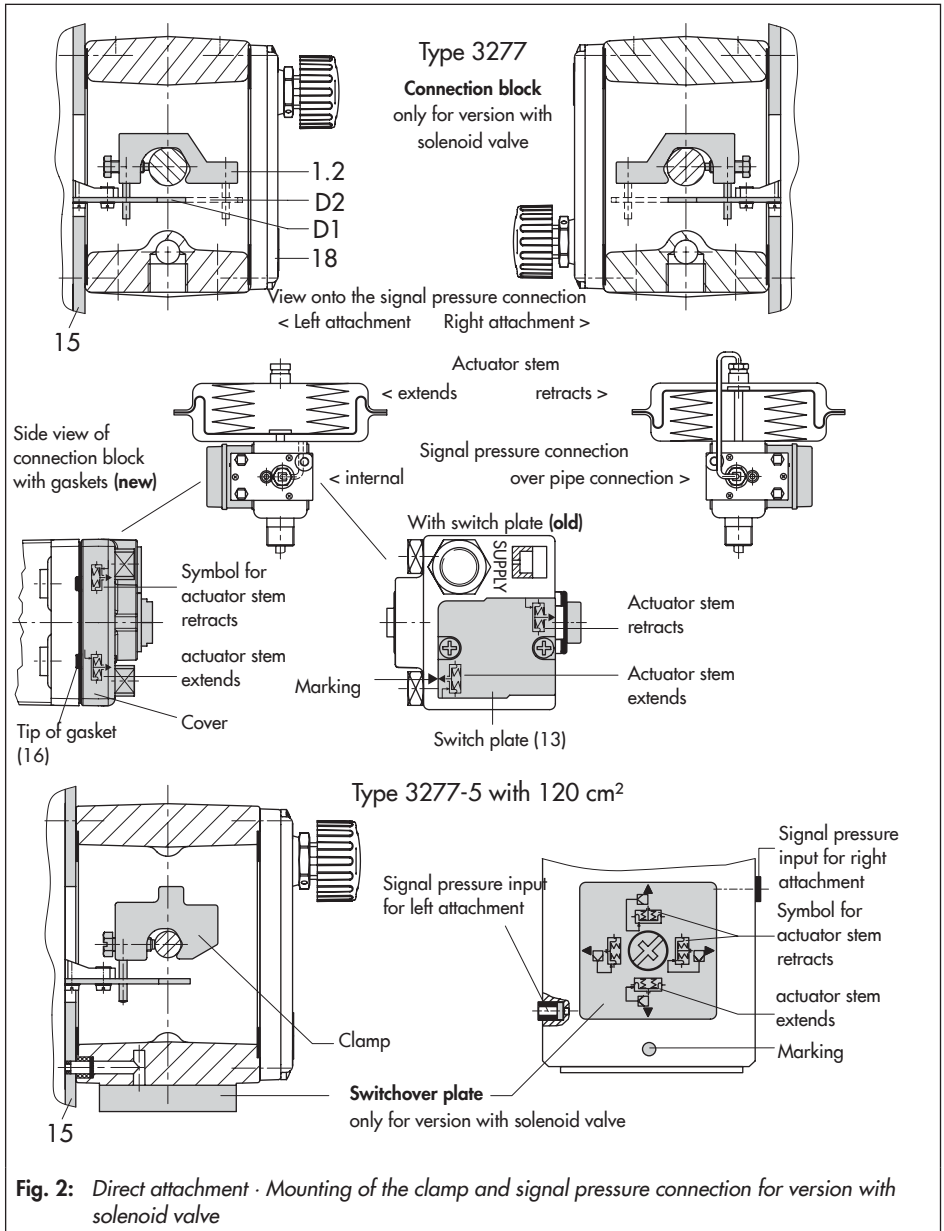

Fig. 2: Direct attachment · Mounting of the clamp and signal pressure connection for version with solenoid valve
1. Make sure that the tip of the gasket (16) projecting from the side of the connection block (Fig. 2, middle) is positioned to match the actuator symbol for the actuator's fail-safe action "actuator stem extends" or "actuator stem retracts". If this is not the case, unscrew the three fastening screws and lift off the cover. Turn the gasket (16) by 180° and re-insert it.
Table 1: *Mounting kits for direct attachment (see Fig. 2 on page 11)*